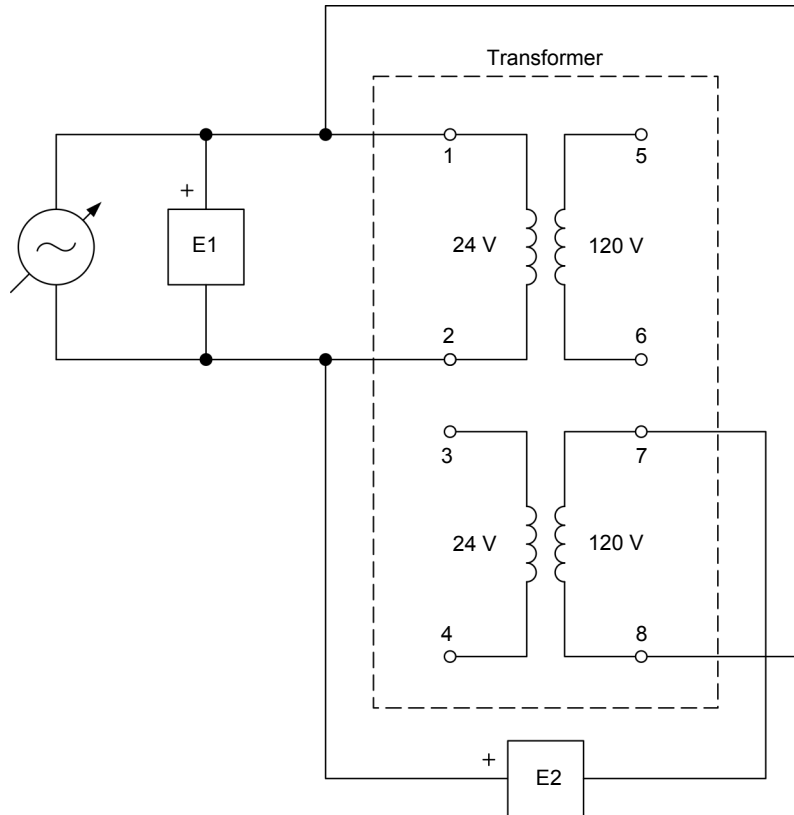

Figure 18. Circuit for determining transformer winding polarity using a voltmeter.
- 23.** Connect the equipment as shown in Figure 18. In this circuit, the other secondary winding (winding 7-8) of the transformer is connected in series with the primary winding (winding 1-2).